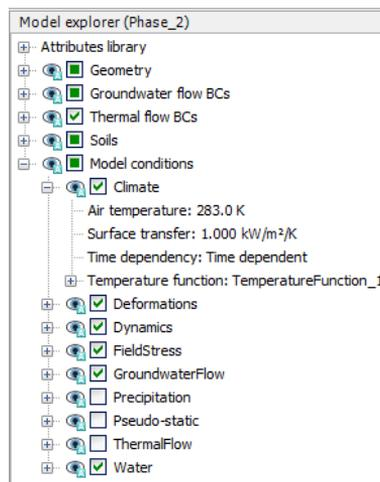

Figure 15.13 Model conditions for Phase_2
- In the *Climate* option, set the *Time dependency* to *Time dependent* and assign the temperature function which was created (Figure 15.13).